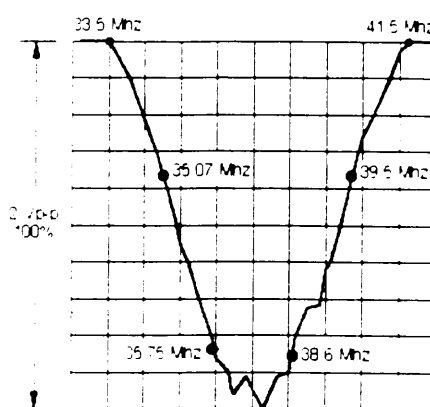

Fig 4.
#### Preparation Step (see fig.4)
- 5: Adjust tuner convertor coil to obtain the waveform as shown in Fig.4.